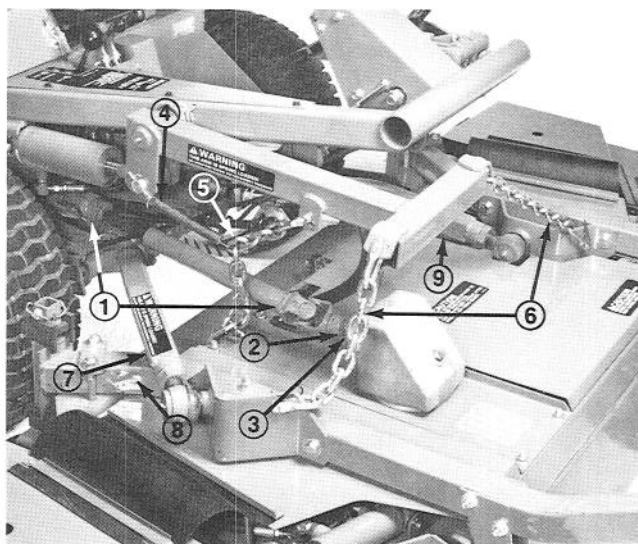

Figure 12
1. Line up holes in yoke and input shaft of gear box. Slide yoke onto shaft (Fig. 12) and secure parts together with roll pin (3/16 x 1-1/2 in.) (38 mm).
3. Attach three lift chains to lift arm and cutting unit (Fig. 12) with six shackles, shackle pins (3/8 x 1-1/2 in.) (38 mm) and cotter pins (1/8 x 3/4 in.) (19 mm). Adjust chain length so that the front of the deck raises level (side to side). When main lift cylinder is fully extended the left push arm should be just below the frame stop (1/16 to 3/8 inch). Half chain link adjustments can be made by switching mounting holes in push arm brackets. Tie up extra chain links if additional length may be needed in the future.
4. Adjust length of rear chain so rear caster wheels are as far as possible from the ground but carrier frame does not contact right push arm when deck is lifted (Fig. 12).
6. Connect ends of tension spring between fourth link of rear chain and eye of cotter pin that holds cylinder pin in place (Fig. 12).